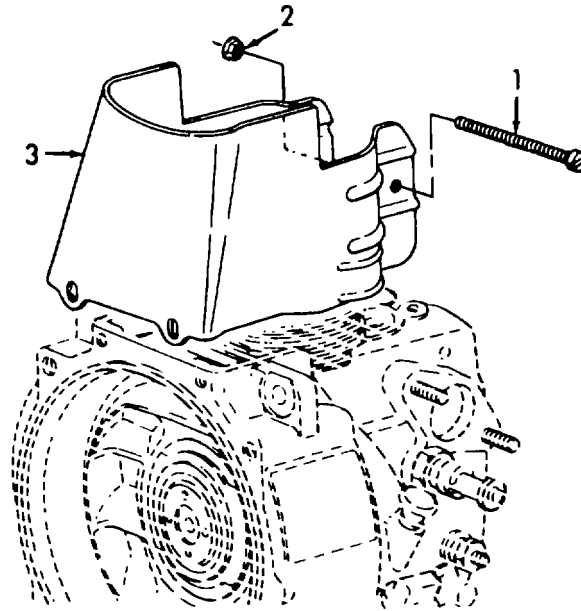
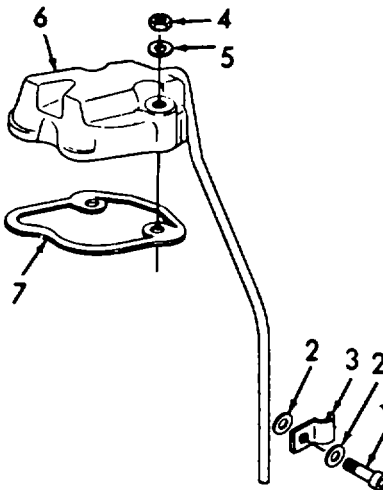

Figure 5-16. Cylinder Head Cowling Removal.
Figure 5-17. Cylinder Head Cover Removal.
a. Removal. (Refer to figure 5-16).
- (1) Remove screw (1) and nut (2) from cowling (3).
- (2) Remove cowling (3) from engine.
- (3) Refer to figure 5-17 and remove screw (1), two flat washers (2), and clip (3).
- (4) Remove two nuts (4) and two flat washers (5).
- (5) Lift cylinder head cover (6) off cylinder head.
- (6) Remove and discard gasket (7).
- (10) Install gasket (6, figure 5-17) and cover (5) on cylinder head and secure with two lockwashers (4) and two nuts (3).
- (11) Install clip (2) and secure with screw (1).
- (12) Install cowling (3) (figure 5-16) and secure with nut (2) and screw (1).
- (13) Refer to paragraph 5-6 and install injector.
- (14) Refer to paragraph 4-16 and install muffler.
- (15) Refer to paragraph 4-15 and install fuel tank.